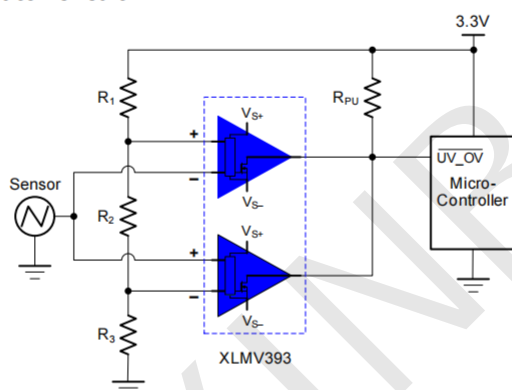

Figure 6. Window Comparator
Window comparators are commonly used to detect undervoltage (UV) and overvoltage (OV) conditions. Figure 6 shows a simple window comparator circuit.
Configure the circuit as shown in Figure 6. Connect  $V_{S+}$  to a 3.3-V power supply and  $V_{S-}$  to ground. Make  $R_1$ ,  $R_2$  and  $R_3$  each 10-MΩ resistors. These three resistors are used to create the positive and negative thresholds for the window comparator ( $V_{TH+}$  and  $V_{TH-}$ ). With each resistor being equal,  $V_{TH+}$  is 2.2 V and  $V_{TH-}$  is 1.1 V. Large resistor values such as 10-MΩ are used to minimize power consumption. The sensor output voltage is applied to the inverting and non-inverting inputs of the 2-channel XLMV393's. The XLMV393 is used for its open-drain output configuration. Using the XLMV393 allows the two comparator outputs to be Wire-ORed together. The respective comparator outputs will be low when the sensor is less than 1.1 V or greater than 2.2 V.  $V_{OUT}$  will be high when the sensor is in the range of 1.1 V to 2.2 V. See the application curve in Figure 7.